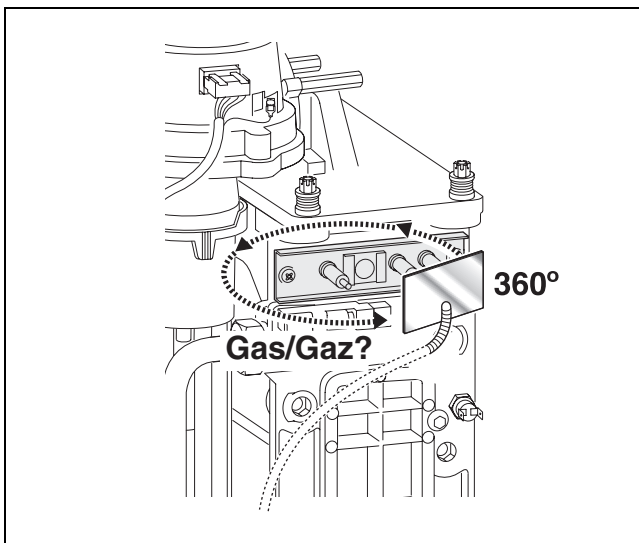

Fig. 56
- ▶ Refit electrode set and check for tightness (Fig. 56).